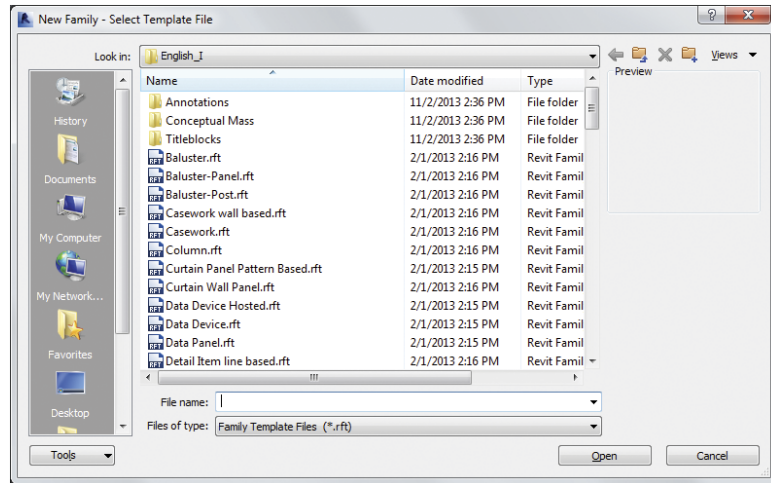

FIGURE 5.6 Selecting a family template
1. From the Application button, click New > Family. The New Family – Select Template File dialog box opens (Figure 5.6).